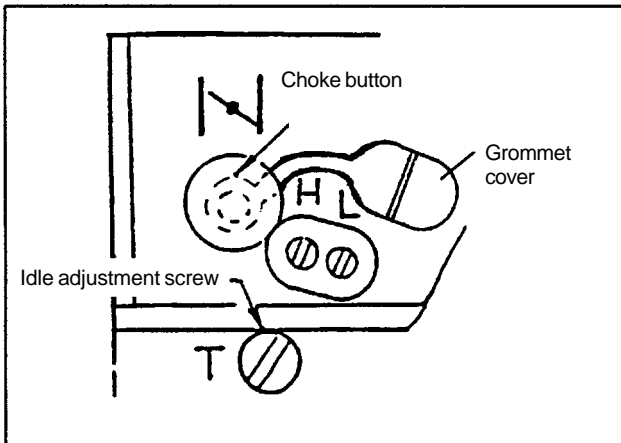

FIG. 3
2. Turn limiter caps counter-clockwise (CCW), so that the limiter cap stops, align with locating slots in the carb body. Place limiter caps over respective mixture needles. **(See Fig. 3)**